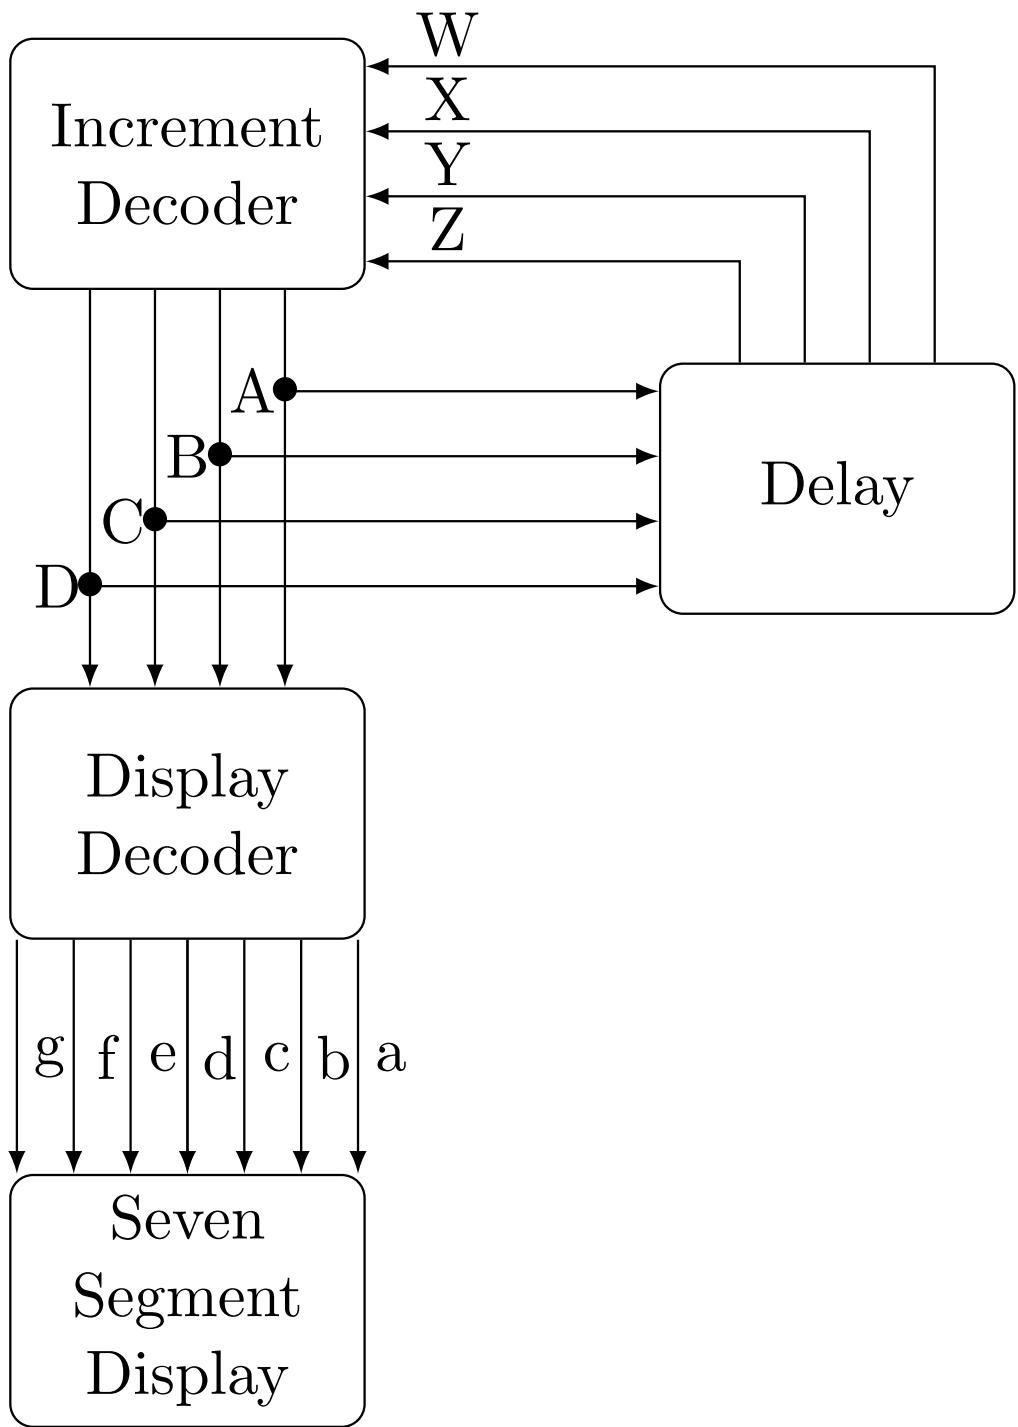

Figure 9.3.3.1.1: Block diagram of the decade counter.
9.3.3.1. Using Fig. 9.3.3.1.1 and modifying the code in Problem 9.3.2.3, design the decade counter.